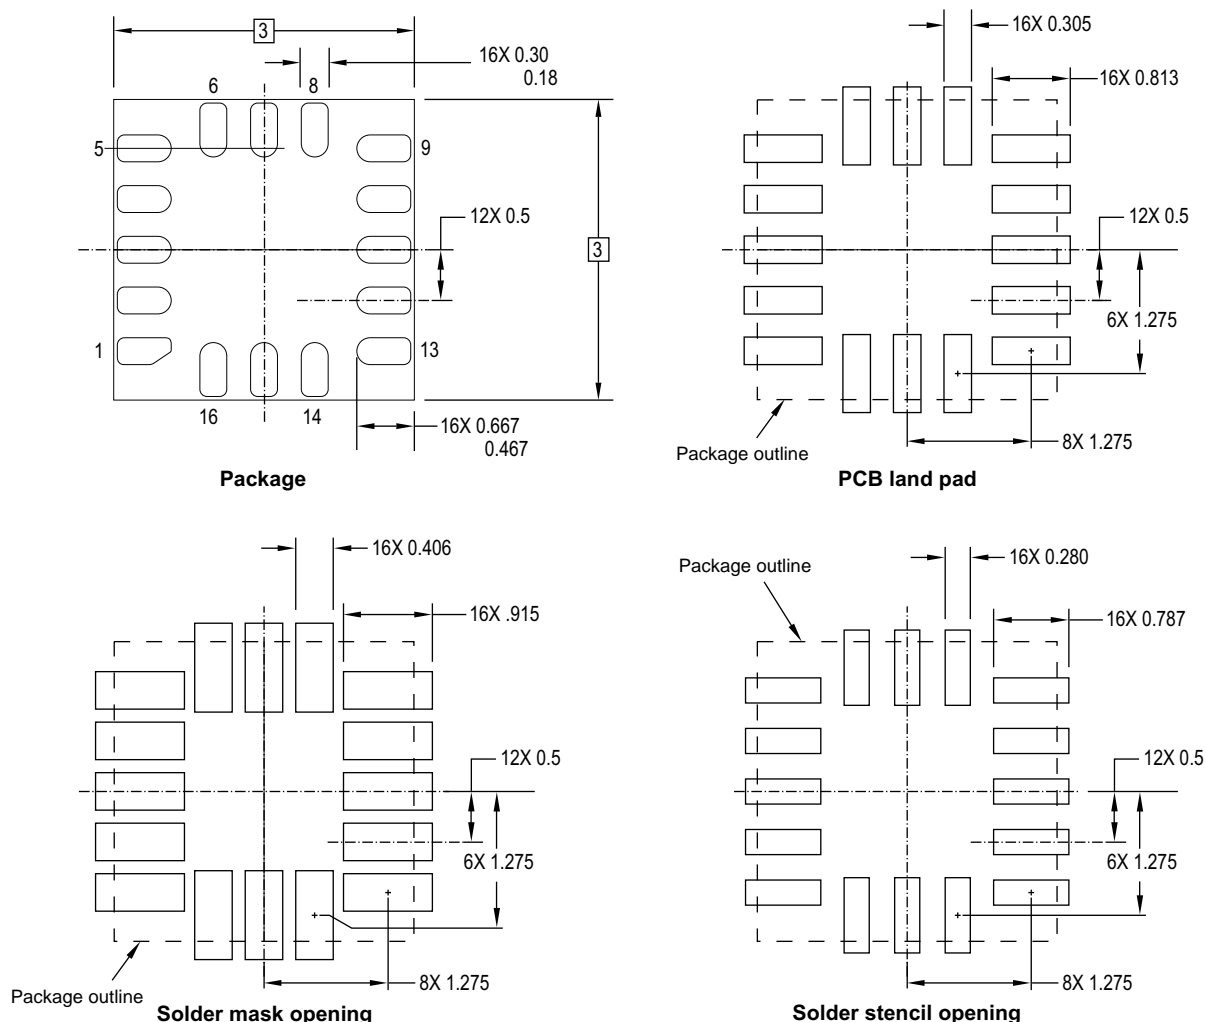

Figure 14. Footprint
The following recommendations are a guide to an effective PCB layout. See Figure 14 for footprint dimensions.
1. Do not solder down exposed ad (EP) under the package to minimize board mounting stress impact to product performance.
2. The solder mask should not cover any of the PCB landing pads, as shown in Figure 14.